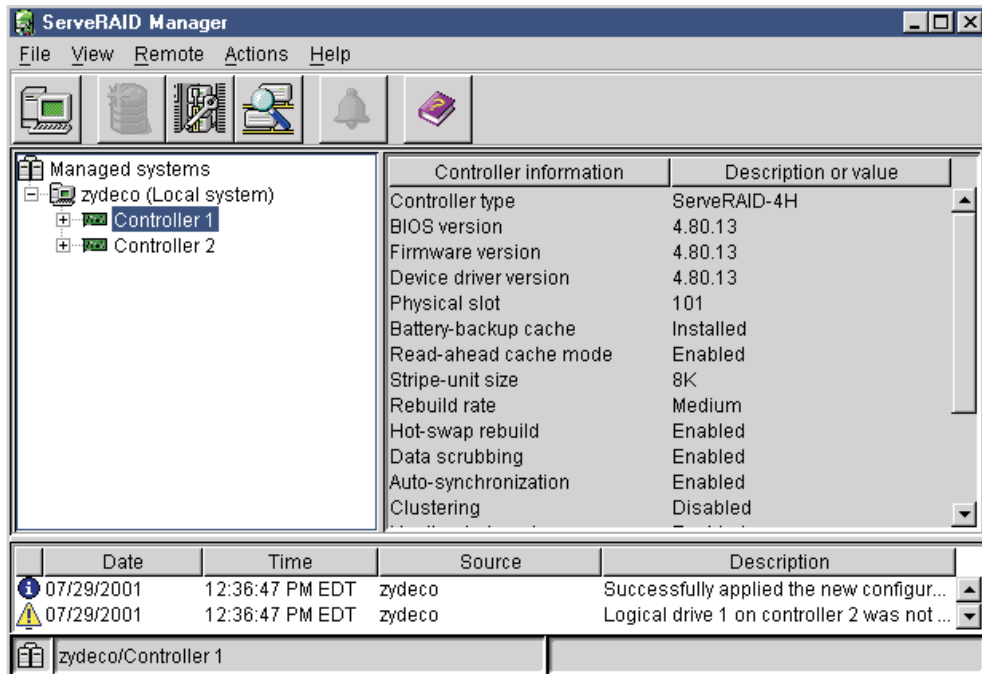

Figure 31. ServeRAID Manager window
2. The ServeRAID Manager program opens, and a window similar to that shown in Figure 31 appears.
The ServeRAID Manager program opens, and a window similar to that shown in Figure 31 appears.
4. The ServeRAID Manager program opens, and a window similar to that shown in Figure 31 appears.